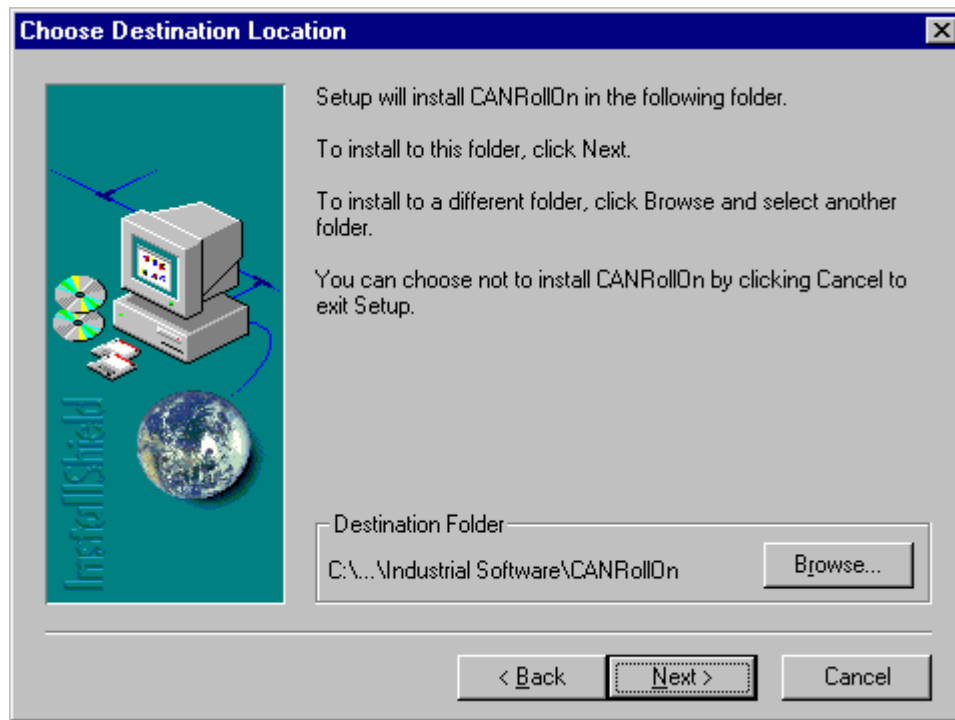

Fig. 3.4
- Click on **Next** button to open the **Choose Destination Location** dialog box - Fig. 3.4.